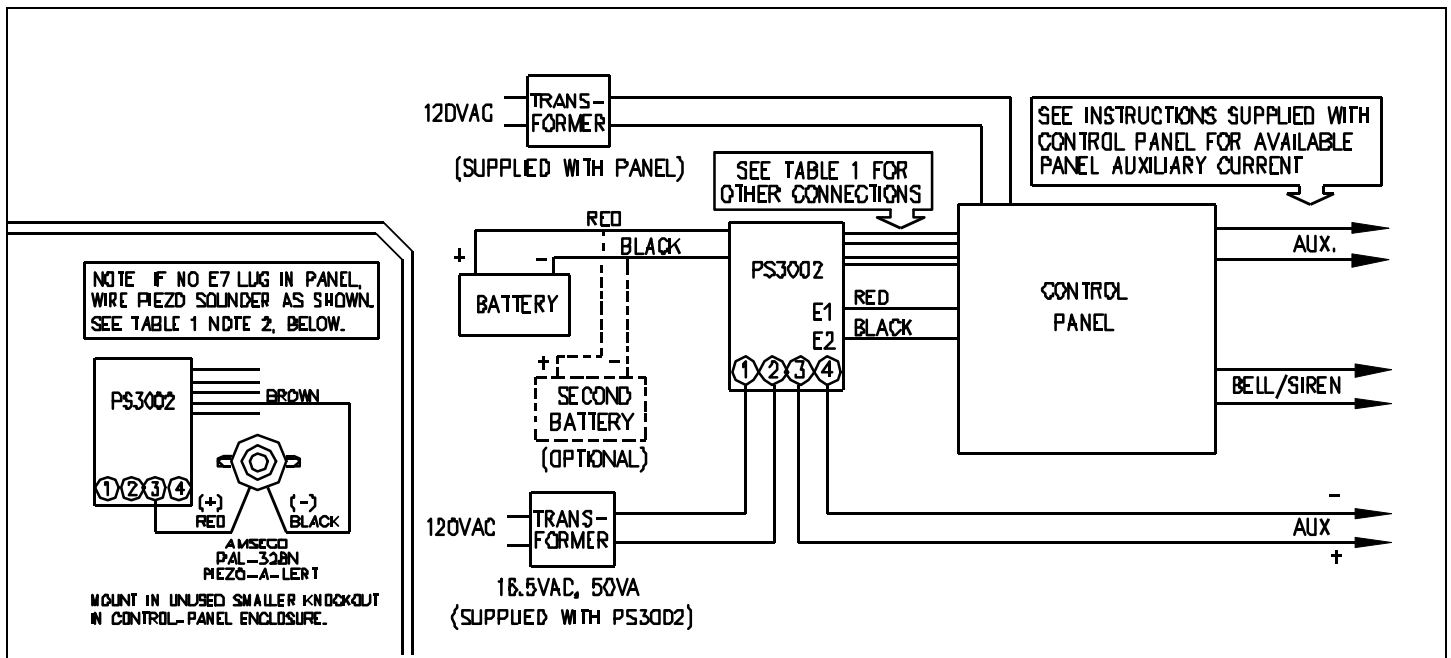

Fig. 3. Block diagram of a supervised system.
The PS3002 is UL listed for Central Station, Police Station Connect, Household Fire and Household Burglar Alarm System Units. (For UL Certified installations, the PS3002 must be wired as part of a supervised system as shown in Fig. 3.
Refer to Fig. 3. In this configuration, the PS3002 is wired between the battery and the control panel. The battery charging resistor must be cut to isolate the control-panel current from the PS3002 current.
Note: (1) Only for residential fire installations. (2) If no E7 lug on panel, wire piezo sounder as shown in Fig. 3 inset for audible indication that 50VA transformer has lost power. Alternatively, both transformers may be powered from the same ac branch circuit. (3) If no E18 lug on panel, Dynamic Battery Test feature will not function correctly with PS3002. Do not use PS3002 if this feature is desired. (4) When used with the PS3002, the Bell/Siren Output for the control panels listed above is: MA900: 12Vdc/2A (8Ω, 15W speaker); all others: 12Vdc/1.2A (8Ω, 15W speaker). (5) Cut Jumper "D".